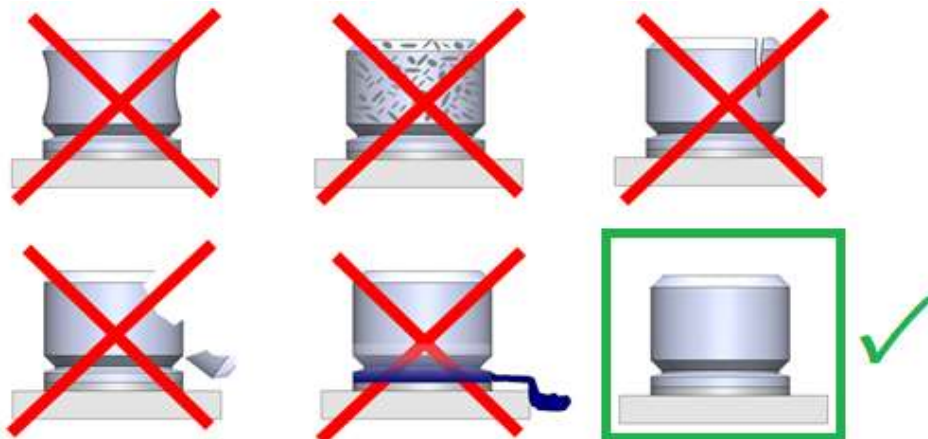

Bild 14: inspection for alterations
6.3.1 After a dry cleaning, the buffer is checked for alterations like geometrical changes, brittleness, cracks, decollations or absorbed liquids (fig. 14).